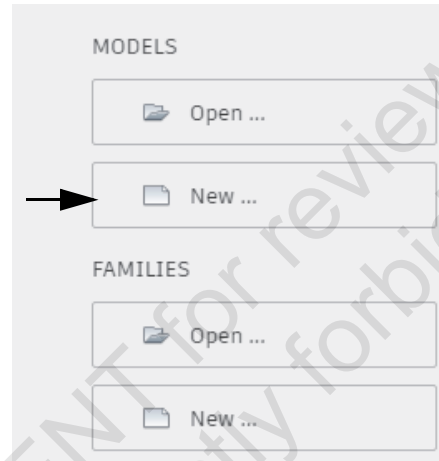

Figure 1–2
- Alternatively, on the Revit Home screen, click  (New...) in the *MODELS* area, as shown in Figure 1–2.